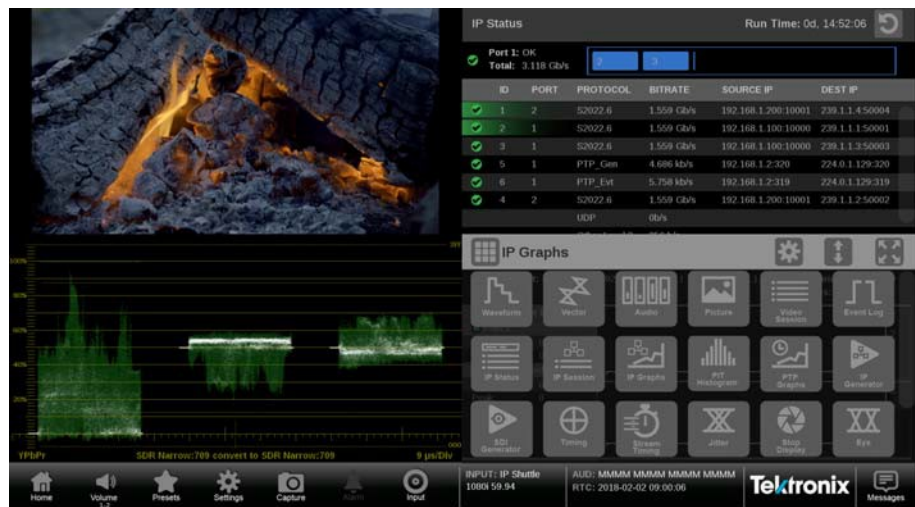

Figure 13: PRISM display in four-tile mode
The PRISM display in four-tile mode figure shows the instrument display with the application selection menu open in tile four. (See Figure 13.)
2. If necessary, select the  icon to open the list of available applications. (See Figure 13.)